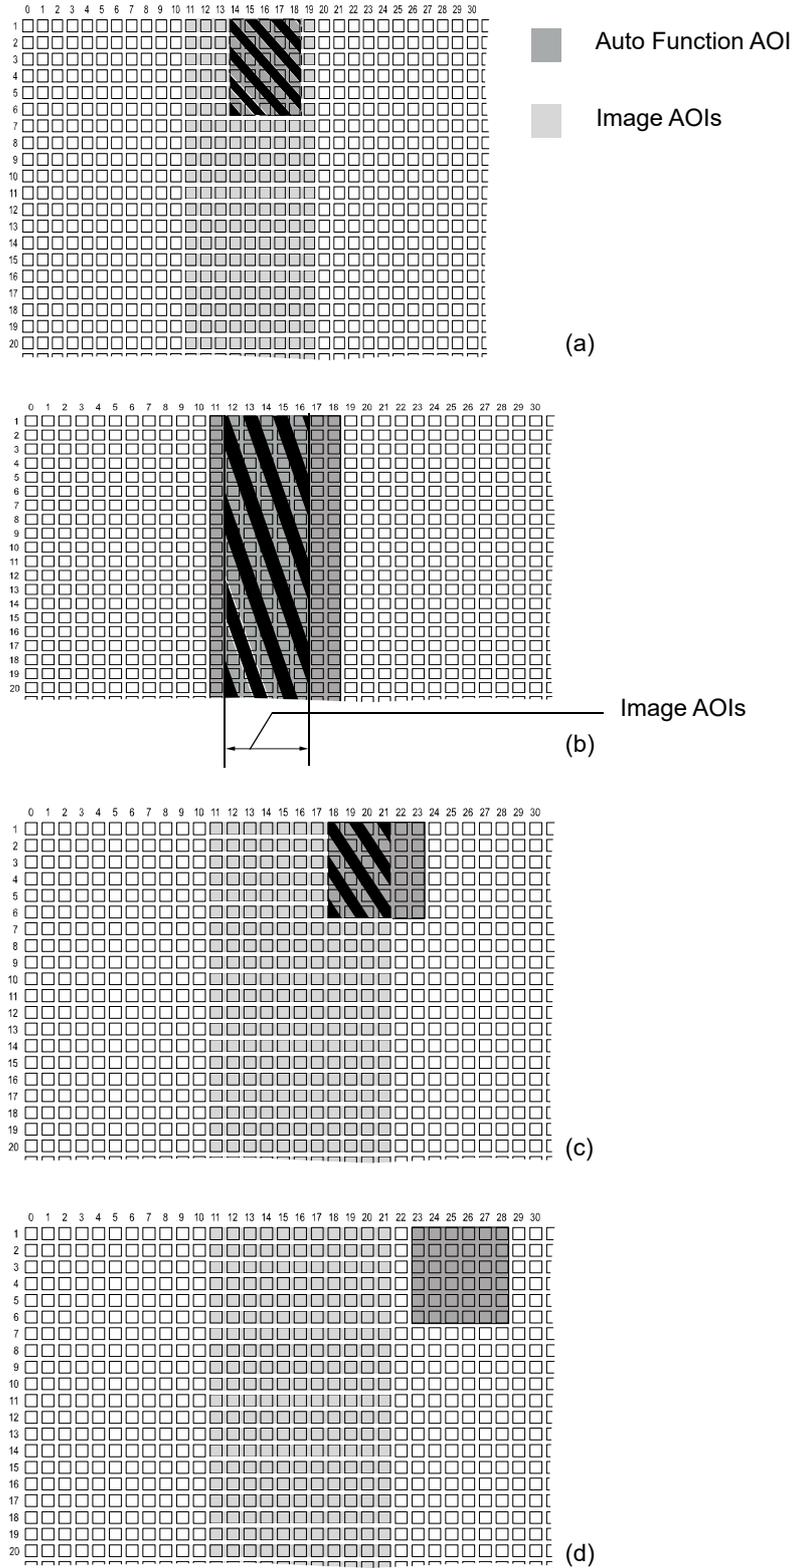

Fig. 35: Various Degrees of Overlap Between the Auto Function AOI and the Image AOIs
Different degrees of overlap are illustrated in Fig. 35. The hatched areas in the figure indicate areas of overlap.
- If the auto function AOI is completely included in the image AOIs (see (a) in Fig. 35), the pixel data from the auto function AOI will be used to control the image property.
- If the image AOIs are completely included in the auto function AOI (see (b) in Fig. 35), only the pixel data from the image AOIs will be used to control the image property.
- If the image AOIs only partially overlap the auto function AOI (see (c) in Fig. 35), only the pixel data from the area of partial overlap will be used to control the image property.
- If the auto function AOI does not overlap the image AOIs (see (d) in Fig. 35), the Auto Function will **not** or only to a **limited** degree control the image property. For details, see the sections below, describing the individual auto functions.